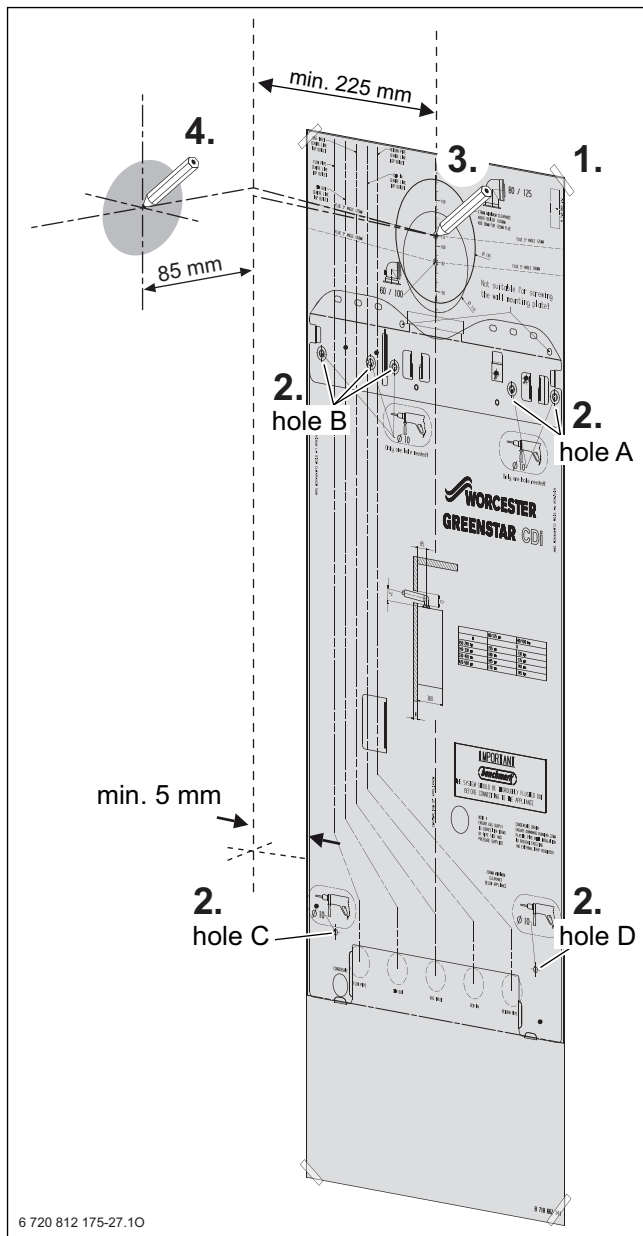

Fig. 24 Mounting template
- Fig. 24 shows the relative positions of the flue and the fixing of the wall mounting plate, the hanging bracket and pre-plumbing manifold.
- ▶ Follow the Fig. 24 to mark the centre of the flue for rear outlet (3) or for side outlet (4).